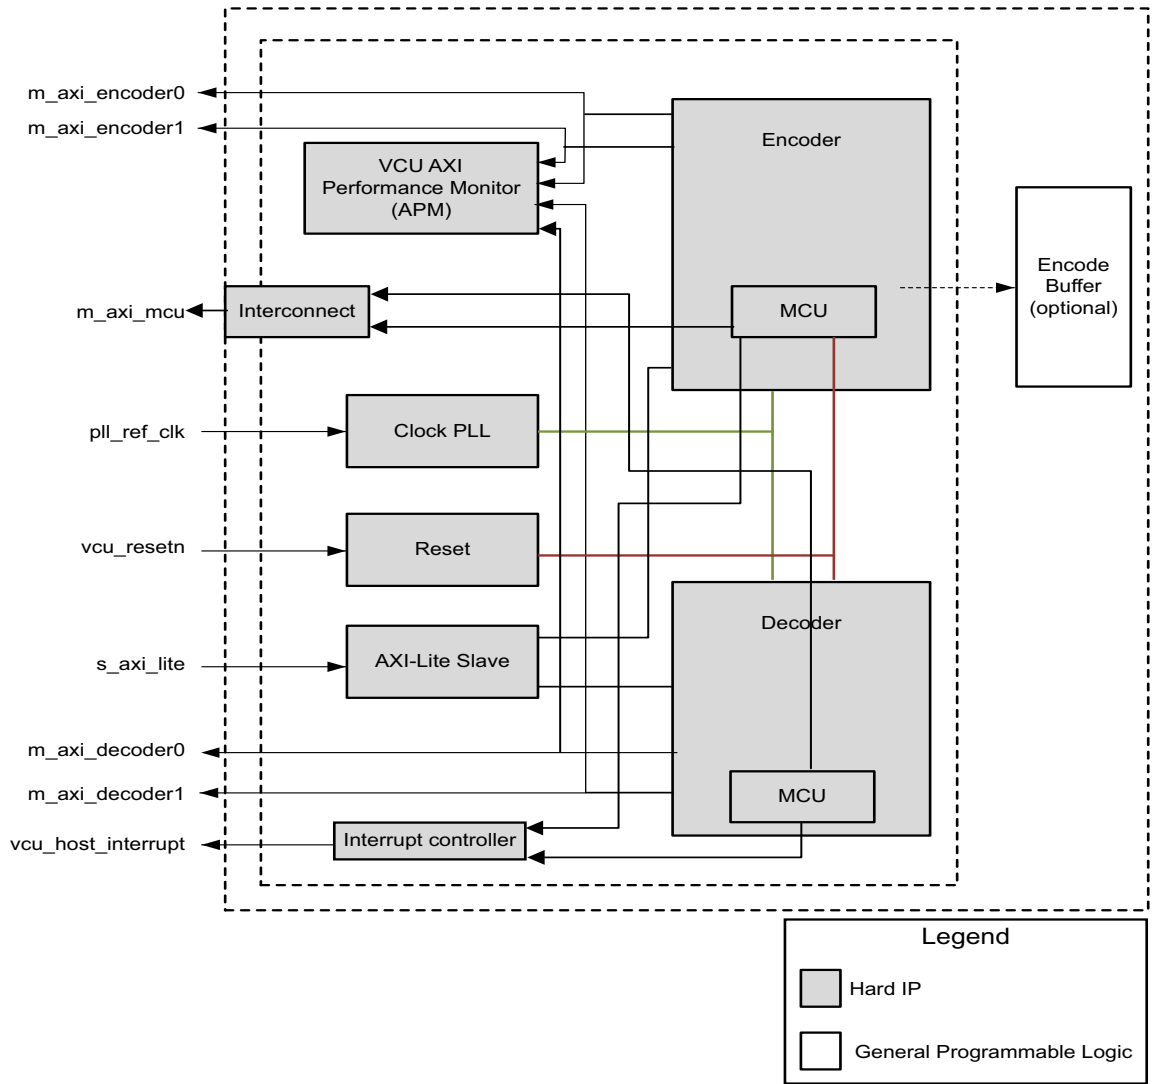

Figure 1-1: Top-level Block Diagram
The VCU is an integrated block in the programmable logic (PL) of selected Zynq® UltraScale™+ MPSoCs with no direct connections to the processing system (PS), and contains encoder and decoder interfaces. The VCU also contains additional functions that facilitate the interface between the VCU and the PL. VCU operation requires the application processing unit (APU) to service interrupts to coordinate data transfer. The encoder is controlled by the APU through a task list prepared in advance, and the APU response time is not in the execution critical path. The VCU has no audio support. Audio encoding and decoding can be done in software using the PS or through soft IP in the PL. Figure 1-1 shows the top-level block diagram with the VCU core.